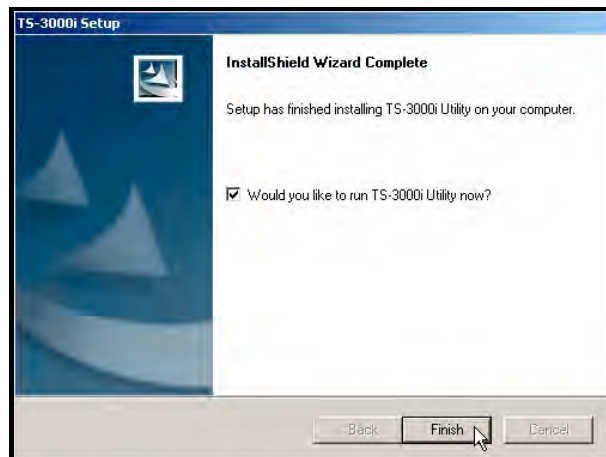

Figure 5-3. Finish Install of TS-3000i Utility.
Step 3. When the “*InstallShield Wizard Complete*” screen appears, click on the **Finish** button to end installation and launch the utility, if checked (see *Figure 5-3*).